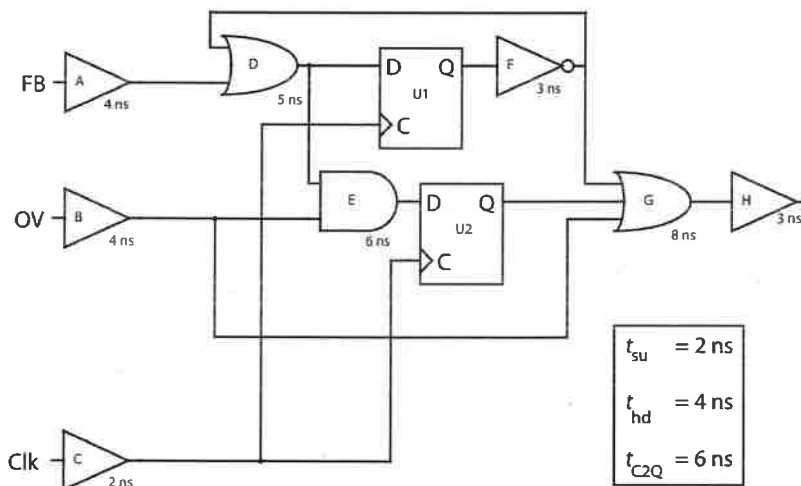

Fig. 3.
- b) The circuit in Fig. 3 is the internal layout of a custom built chip. The tpd for each gate is listed below it. The delays for the register are all the same and listed in the lower right corner. Input protection circuits and output fan-out circuitry can slow down the signal transmission on and off the chip. These delays will be represented as simple buffers on the schematic.